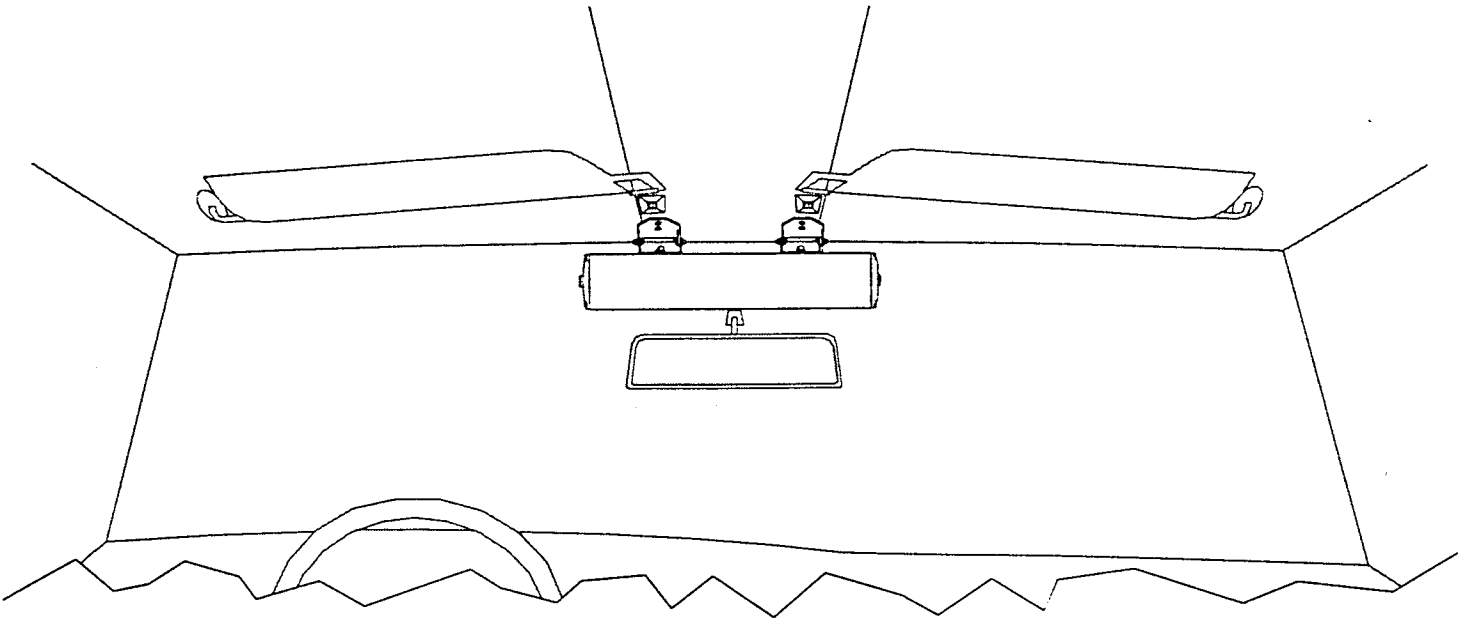

Figure 2
- 3) Position the light head in the desired mounting position and manipulate the brackets so that the mounting holes line up with the holes left by the visor clips. Use a separate bracket for each side of the RVM. See Figure 2.